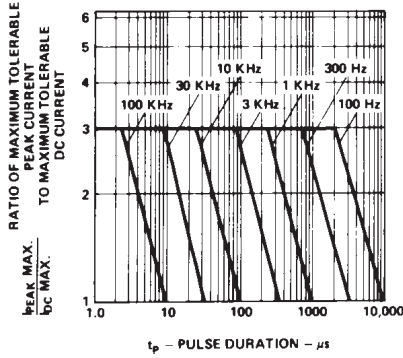

Figure 5. Maximum tolerable peak current vs. pulse duration. ( $I_{DC}$  MAX as per MAX ratings)
- See Figure 5 (Red/Orange), 10 (Yellow), or 15 (Green) to establish pulsed operating conditions.